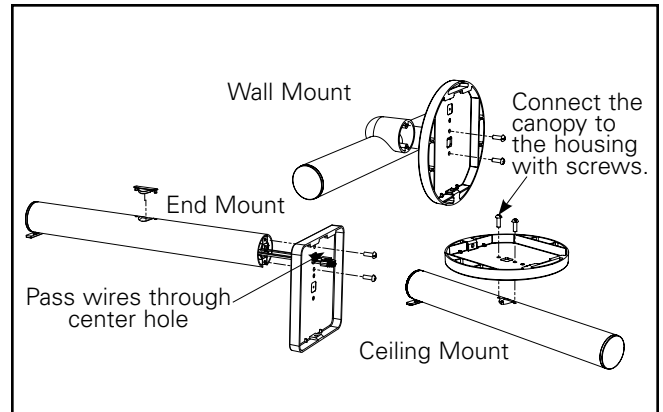

Figure 4.
8. Mount the Canopy to the housing using the appropriate steps (See Figure 4).